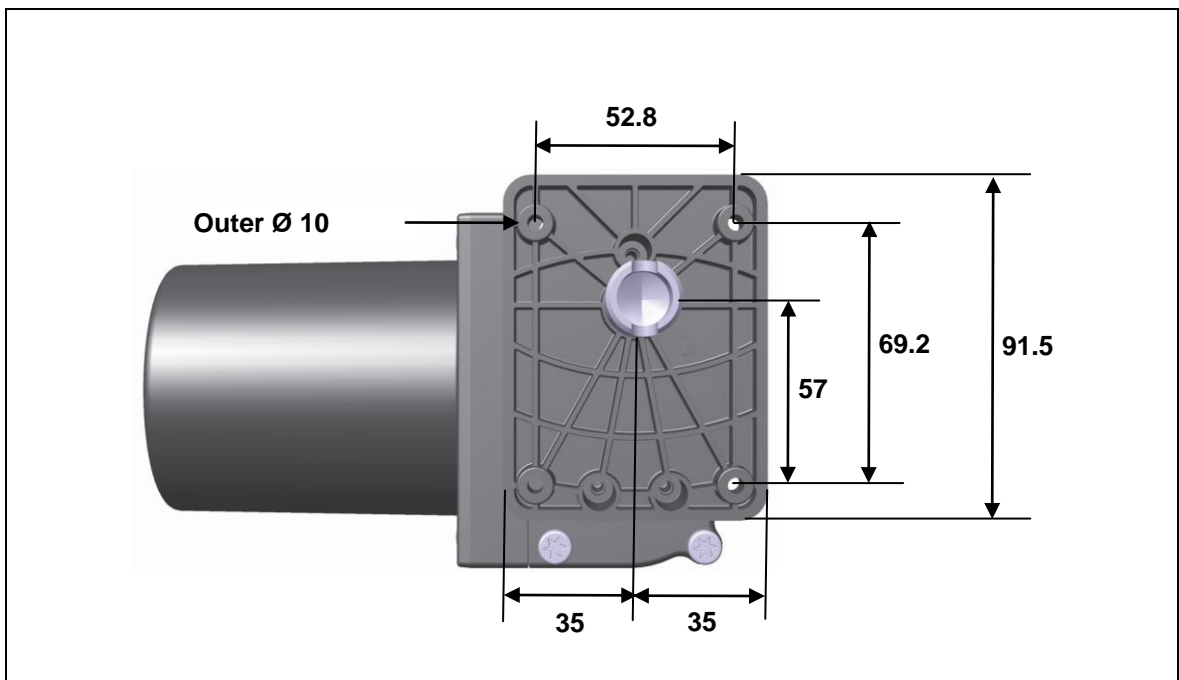
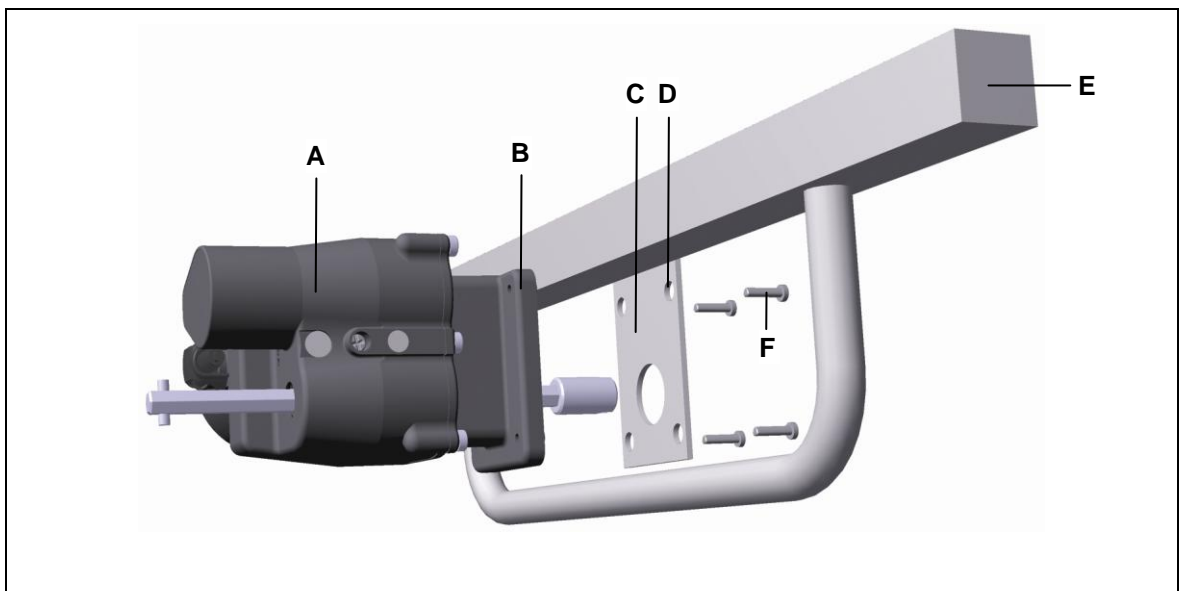
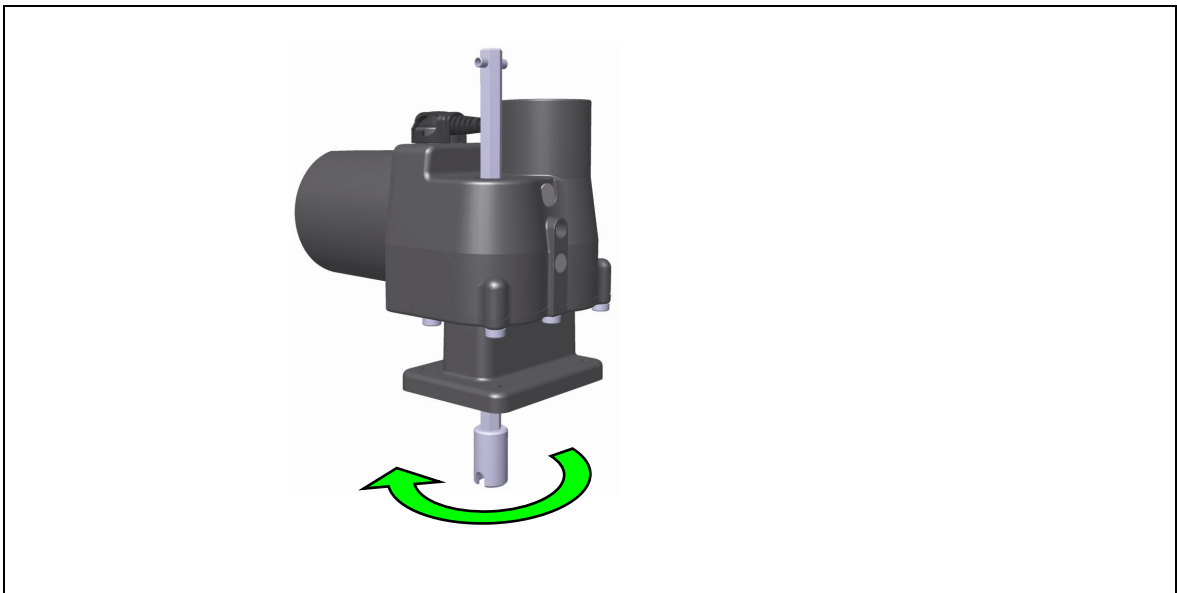

Figure 5 Mounting dimensions on the adapter plate of the MEGAMAT MPR (in mm)
Figure 7 Installing the drive (example)
Figure 8 Intended rotation direction of the MEGAMAT MPR
- 1 Prepare a suitable mounting plate (as shown by C in Figure 7, with min. thickness of 2 mm) for attaching the MEGAMAT MPR drive to the end product (E). Figure 5 shows the dimensions of the adapter plate (B) of the drive. Note the intended direction of rotation (as shown in Figure 8) in accordance with the proposed alignment of the drive.